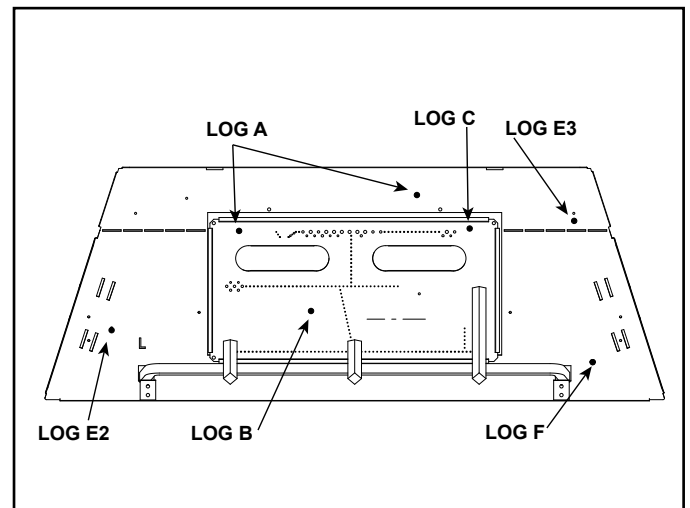
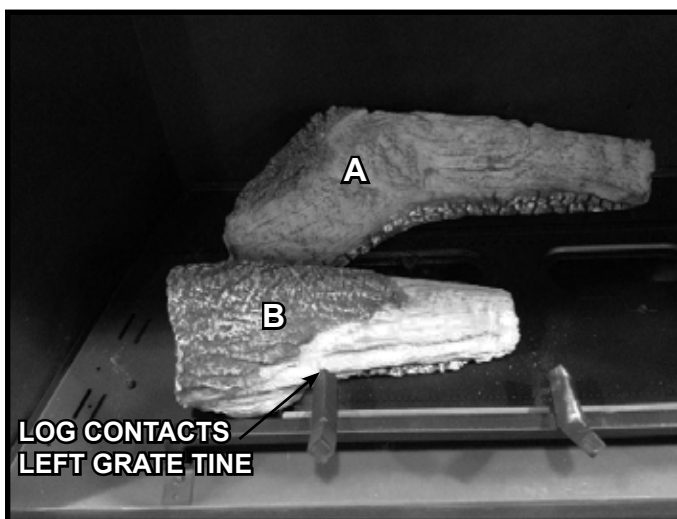
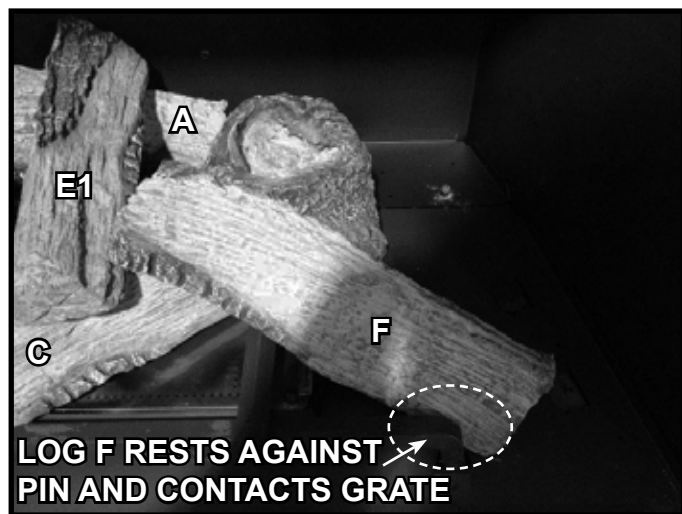
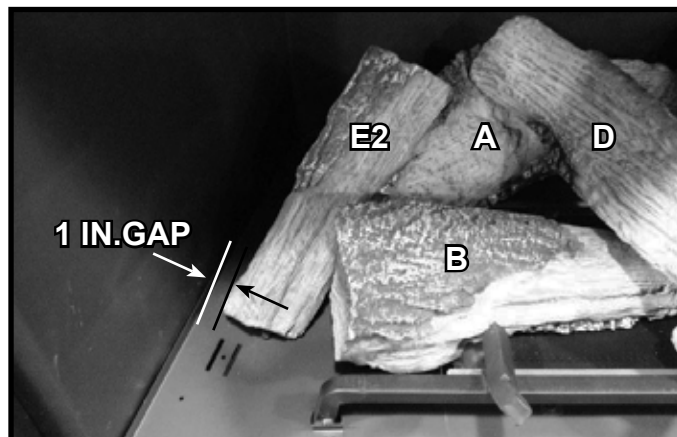

Figure 4. LOGSDBDV42 Log Pin Locations
Figure 6. Log B Installed
Figure 10. Log F Installed
Figure 11. Log E2 Installed
1. **(LOG A):** Locate the two pin holes on the bottom of Log A. Hold the log so that the flat spot is facing the rear of the appliance and the pin holes are facing the base pan. Place Log A over the two pins referenced for Log A in Figure 4. Refer to Figure 5.
2. **(LOG B):** Locate the pin hole on the bottom of Log B. Place pin hole on Log B over the pin referenced for Log B in Figure 4. Hold the log over the pin and rotate the left side of the log until it contacts the left grate tine. See Figure 6.
6. **(LOG F):** Place Log F into appliance as shown in Figure 10. The burned out end of the log should rest on Log C and contact Log E1. The unburned end of Log F should rest against log pin F, as shown in Figure 4, and contact the back of the lower grate tine as noted in Figure 10.
7. **(LOG E2):** Place Log E2 into appliance as shown in Figure 11. The base of the log should be positioned against the pin indicated in Figure 4 for Log E2. The top side should rest against Log A. The base end of Log E2 should be approximately one inch from the left side of the firebox if no refractory is present. This distance will be about 1/4 inch if the optional brick refractory is installed or 3/4 inch if the optional black glass refractory is installed.